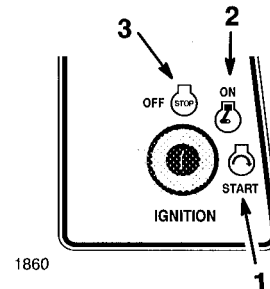

Figure 9
5. Turn the ignition key clockwise and hold it in the "START" position (Fig. 9). When the engine starts, release the key.
2. Turn the ignition key to "OFF" (Fig. 9).